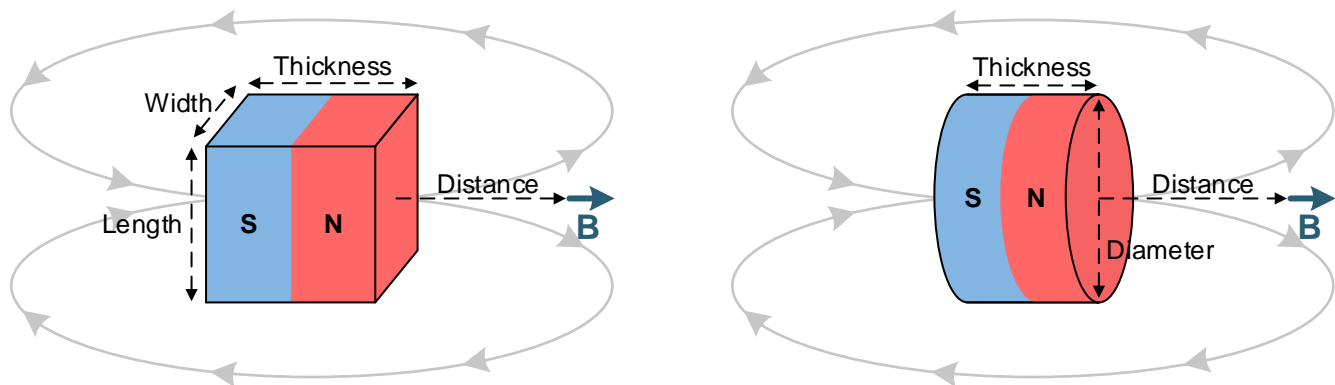

Figure 21. Rectangular Block and Cylinder Magnets
Magnets are made from various ferromagnetic materials that have tradeoffs in cost, drift with temperature, absolute maximum temperature ratings, remanence or residual induction (B_r), and coercivity (H_c). The B_r and the dimensions of a magnet determine the magnetic flux density (B) produced in 3-dimensional space. For simple magnet shapes, such as rectangular blocks and cylinders, there are simple equations that solve B at a given distance centered with the magnet. Figure 21 shows diagrams for Equation 4 and Equation 5.
Use Equation 4 for the rectangular block shown in Figure 21:
Use Equation 5 for the cylinder illustrated in Figure 21: